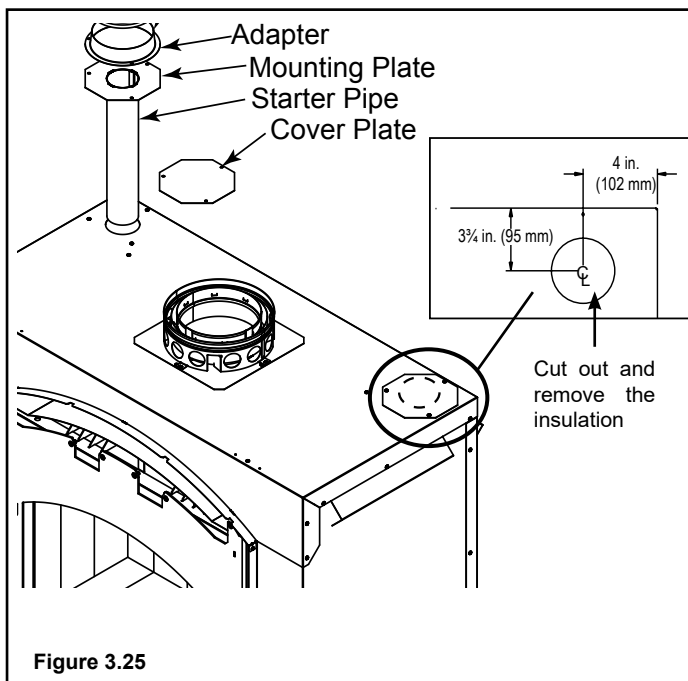

Figure 3.25
- Remove the knockout or cover plate from the top of the fireplace and discard it. See Figure 3.25.
- Cut a 3 in. (76 mm) hole in the insulation board and remove it as per the dimensions shown in Figure 3.25.